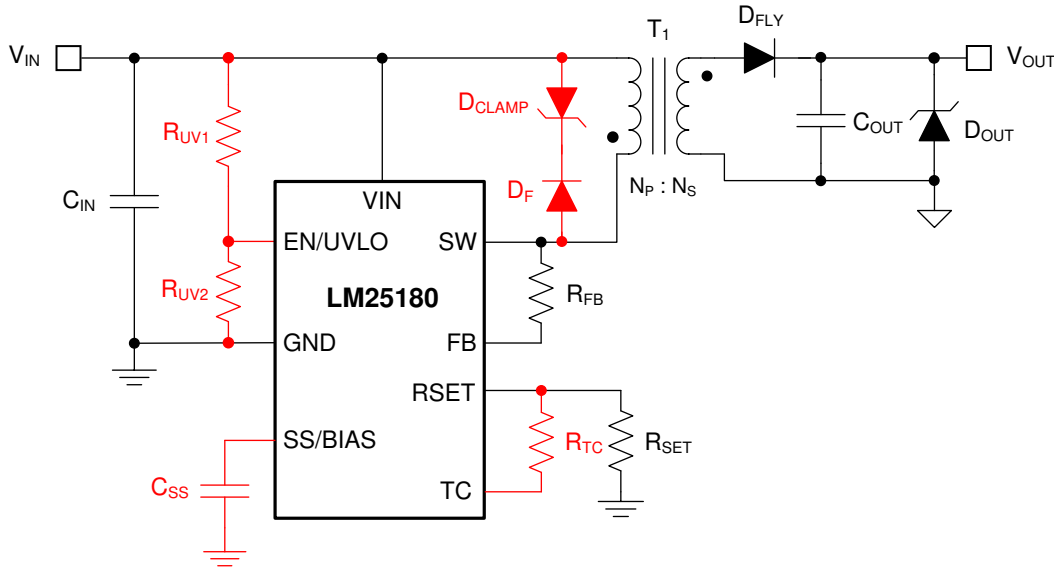

图 19. LM25180 Flyback Converter Schematic (Optional Components in Red)
Figure 19 shows a typical schematic of the LM25180 PSR flyback circuit. Components denoted in red are optional depending on the application requirements.
To minimize output voltage regulation error, the LM25180 senses the reflected secondary voltage when the secondary current reaches zero. The feedback (FB) resistor, which is connected between SW and FB as shown in 图 19, is determined using 公式 8, where R_{SET} is nominally 12.1 kΩ.